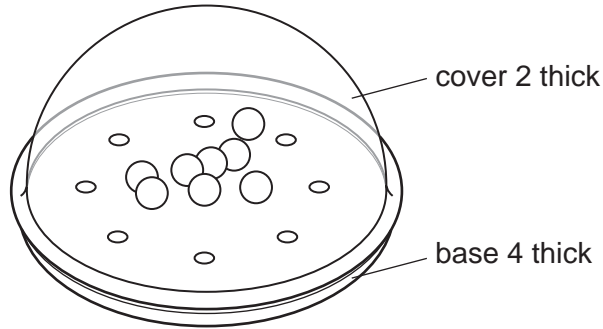

Fig. 6
- 11 Fig. 6 shows a game. The object of the game is to locate each of the eight balls in the eight holes. The cover and base are made from acrylic.